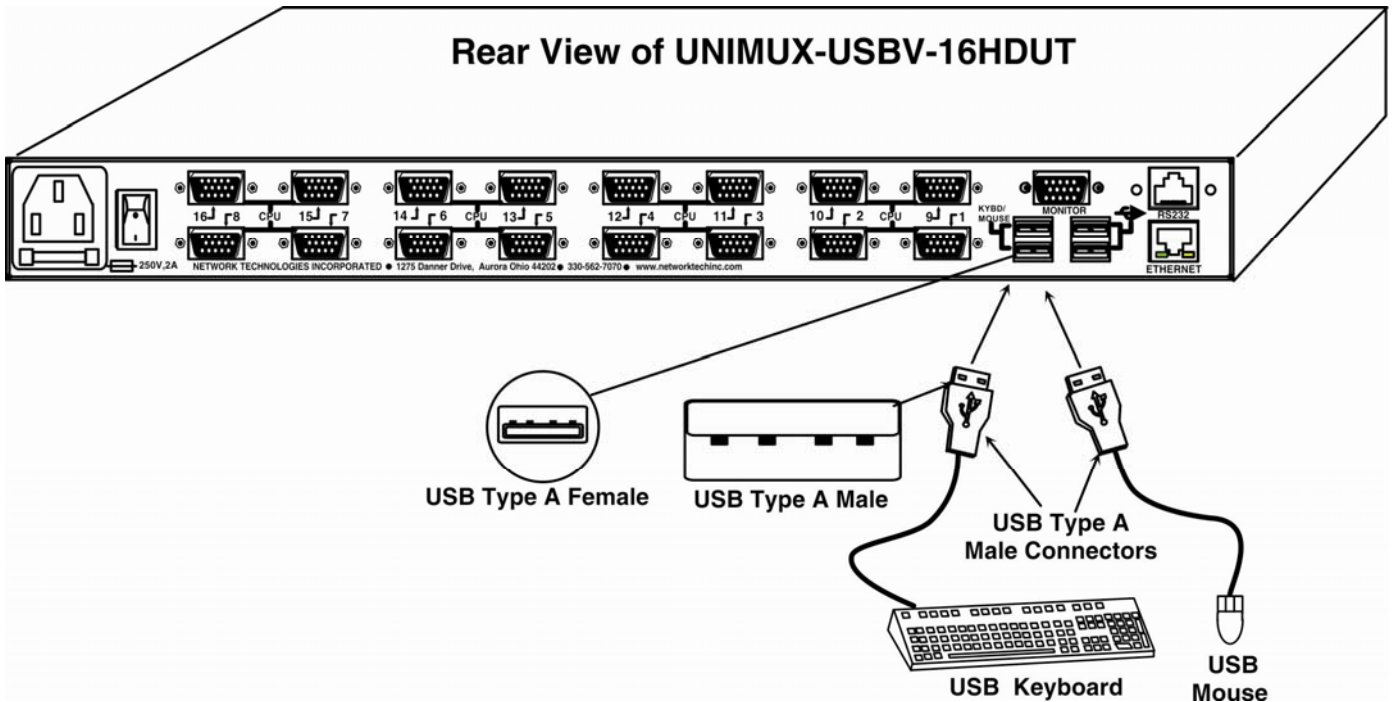

Figure 5- Install user devices (mouse and keyboard)
- Connect the user devices to the USB type A female ports labeled "KYBD/MOUSE" on the rear of the UNIMUX switch (see Figure 5). Connection to these ports will provide user control of the UNIMUX switch.